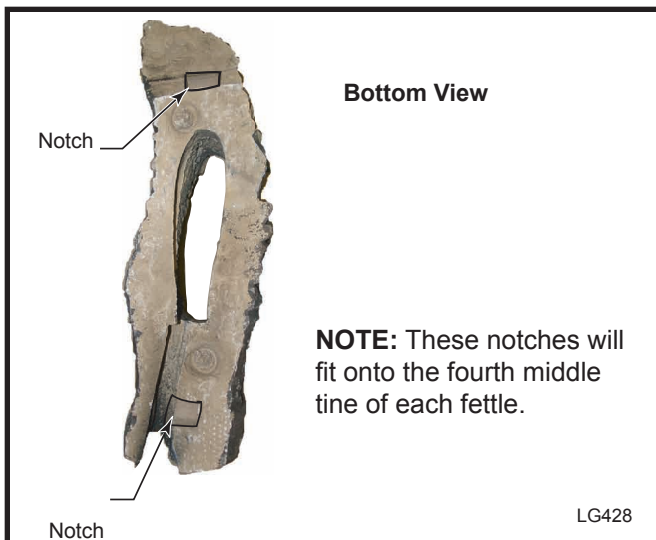
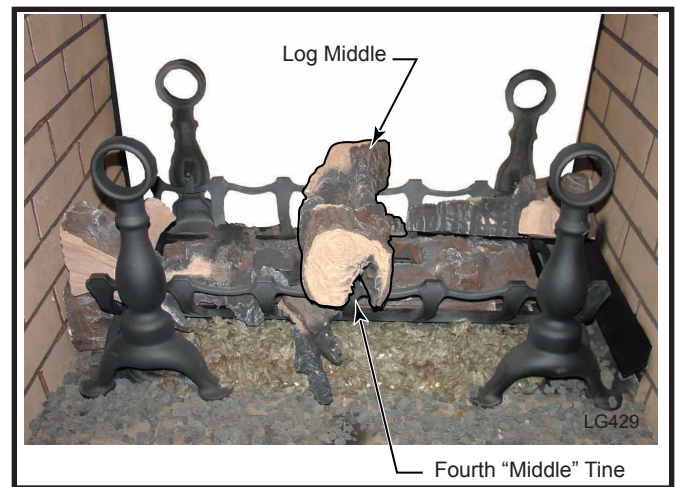

Fig. 48 Use notches on bottom side of log to set in place.
Fig. 49 Position log middle.
9. Position the log middle. (Fig. 49) Familiarize yourself with notches located on the flat surface of the log on each end. (Fig. 48) These notches are utilized in positioning the log. Hold the log with the flat surface facing down and the burned out end closer to you.